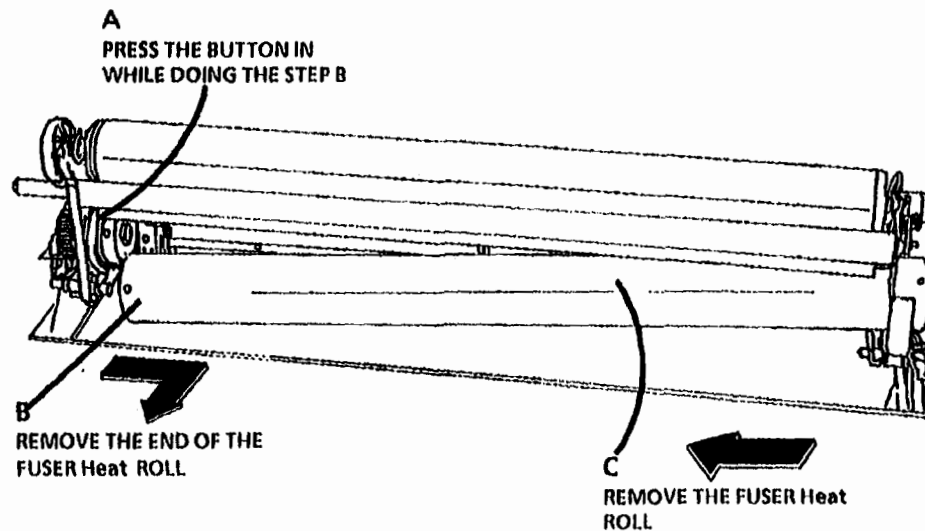

Figure 2. Remove the Fuser Heat Roll
7. (Figure 2): Remove the Fuser Heat Roll.